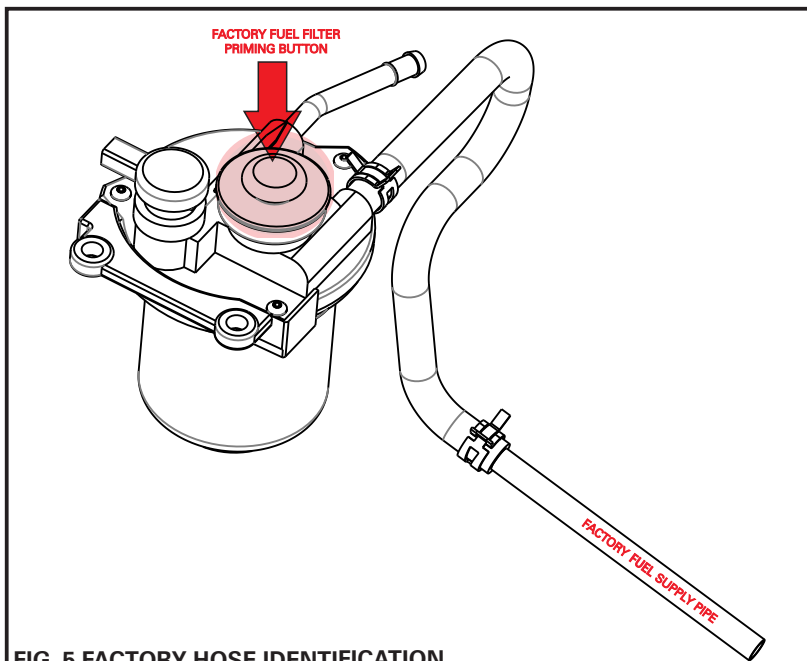

FIG. 5 FACTORY HOSE IDENTIFICATION
5. Locate the factory fuel filter on the passenger side of the engine bay. Locate the factory fuel inlet hose at the factory fuel filter. Loosen the factory fuel hose clamp and disconnect the fuel supply line from the factory filter, as per Fig. 5. Have a rag ready to capture any diesel that may spill out of the fuel line and the fuel filter.
6. Trace the other end of the fuel supply line and disconnect it from the metal factory fuel supply pipe, as per Fig. 5. Remove the factory fuel supply line from the vehicle and store for safe keeping. Have a rag ready to capture any diesel that may spill out of the fuel lines.
7. Mount the Z980K fuel filter assembly onto the metal bracket facing the rear of the engine bay using the two (2) black M10 bolts and washers supplied with the Z980K.